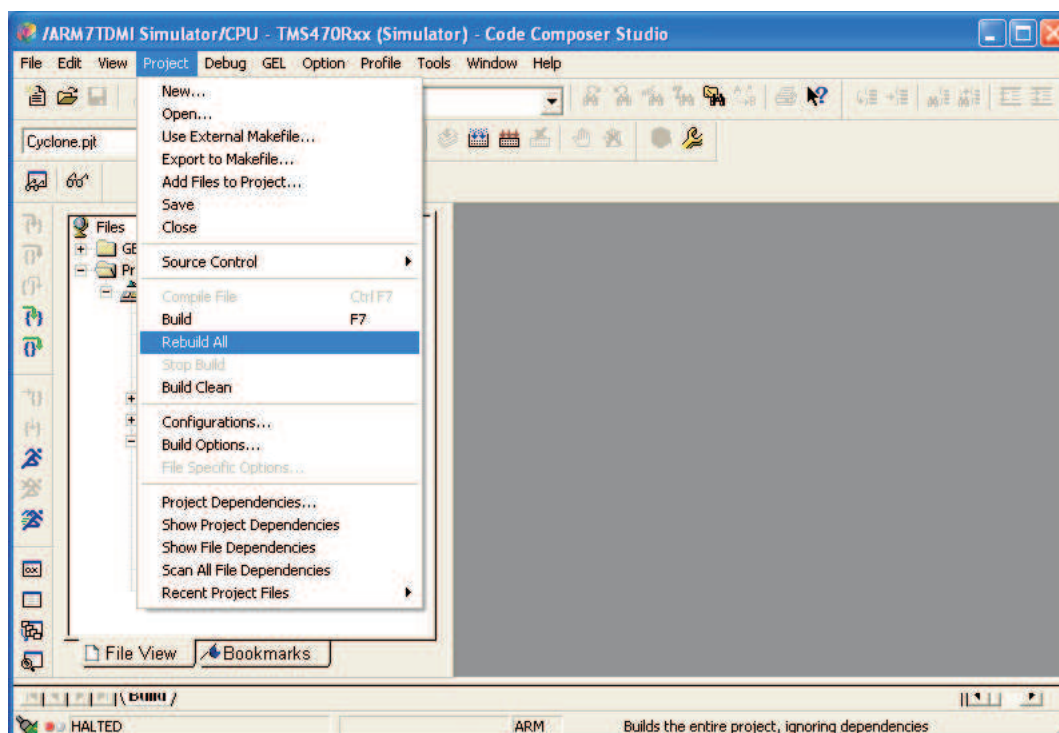

Figure 18. Opened Project File With Example of Cyclone.pjt - Rebuild All
5. Select *Project Rebuild All*, as shown in Figure 18. *Project Rebuild All* generates the file *Cyclone.x0* based on *Cyclone.out*, and saves the file of *Cyclone.x0* inside the folder where *Cyclone.pjt* is saved.